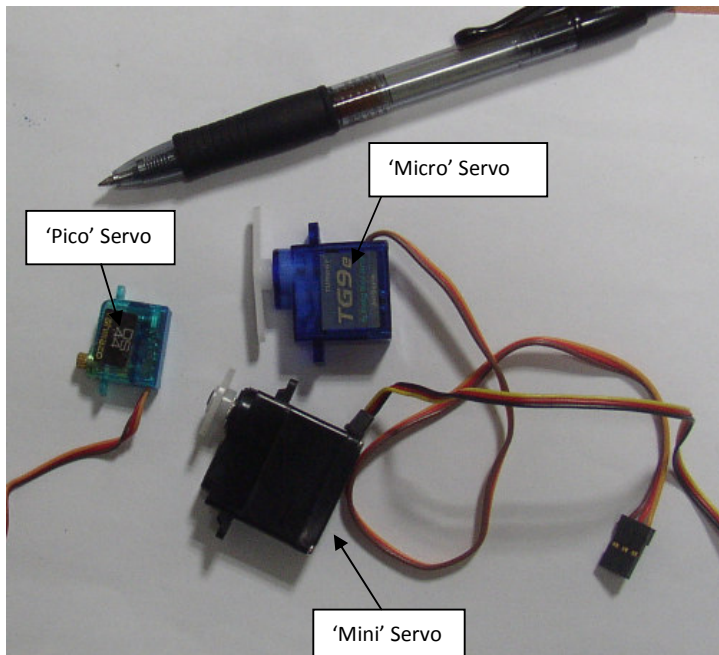

Figure 2 – Examples of RC Servos.
The most popular actuators come in the form of electric powered rotational actuator. These actuators are originally used in radio controlled (RC) toys, such as toy cars, boats, helicopters and planes, and are called RC Servo Motors, or just *RC Servos*. A few examples of RC Servos are shown in Figure 2. The pen in the figure serves as a reference for the physical size of the RC Servos.